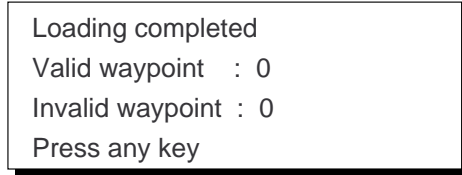

Figure 8-23
- When the data is loaded, press [CU/NU ENT] and [MENU ESC]. The message shown in Figure 8-23 appears.